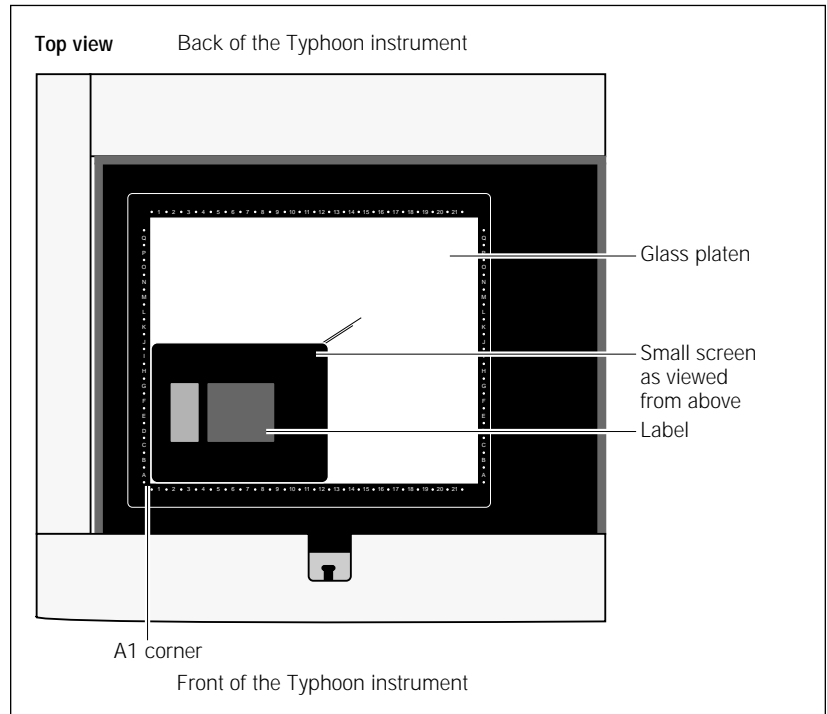

Figure 6-3. Load the screen onto the glass platen of the Typhoon instrument.
3. Use the grid markings that surround the glass platen to align the A1 corner of the screen with the A1 corner of the glass platen (figure 6-3).